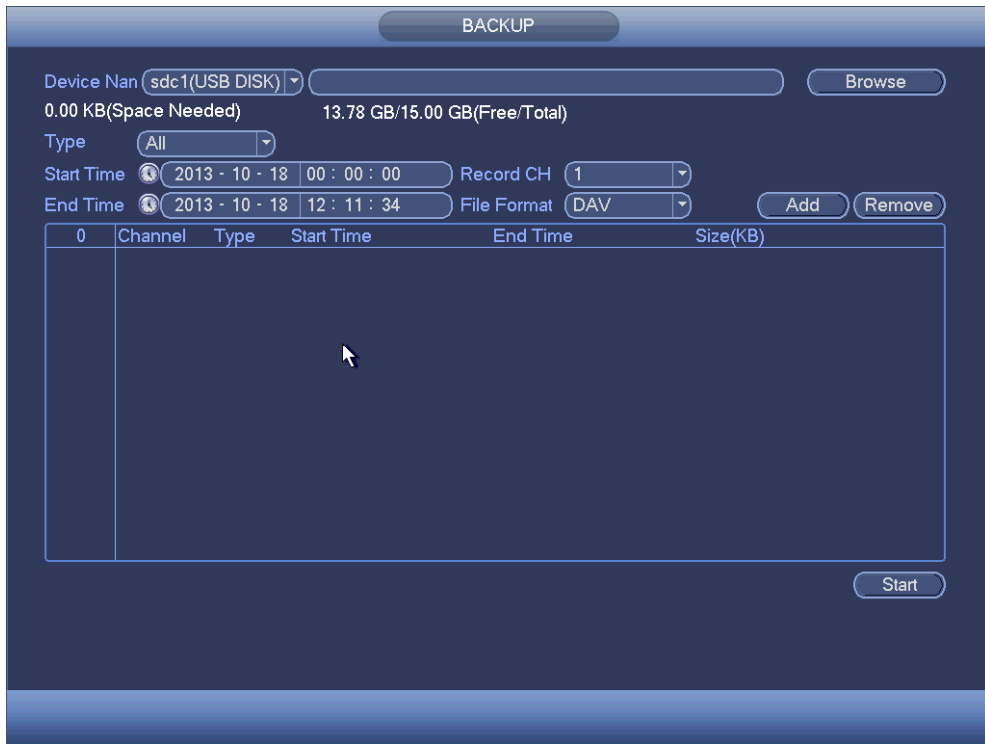

Figure 4-248
- b) From Main menu>Backup, you can go to the Backup interface. See Figure 4-248